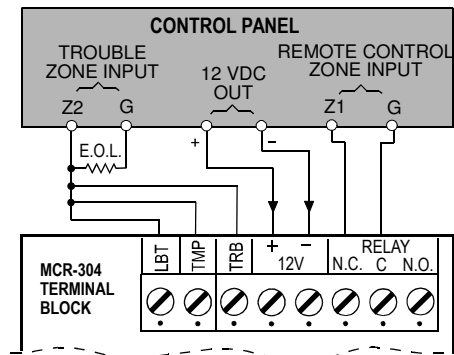

Figure 6. Wiring All 3 Status Outputs to a Single E.O.L. Zone
- C. If you prefer to use only one zone input for status alerts, connect all 3 status outputs of the MCR-304 to a single zone input of the control panel, as shown in Figures 6 (E.O.L. option) and 7 (relay option).